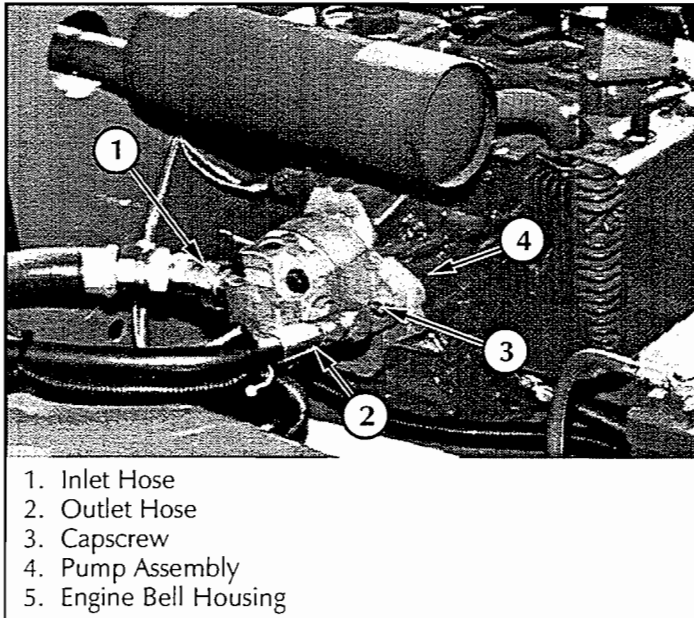

Figure 4-15: Typical Hydraulic Pump
4.8 Hydraulic Pump (Figure 4-15)